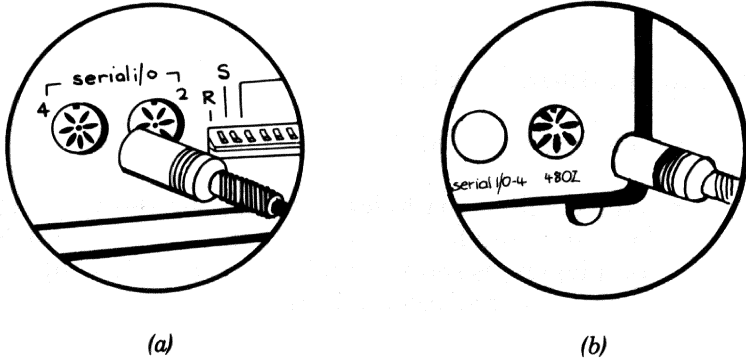

Figure 2.6 Disc Unit Interface Cable Connections
- Connect one end of the disc unit interface cable to the Serial I/O 4 socket on the rear panel of the 480Z as shown in figure 2.6(a), and the other to the socket marked "480Z" on the rear of the disc unit, as shown in figure 2.6(b).
When the disc unit is plugged into the 480Z serial I/O 4 socket, other devices that need a serial I/O 4 socket must be connected to the one on the rear panel of the disc unit, shown in figure 2.6(b). This is most likely to occur when you want to connect a serial printer to your system (see chapter 7).